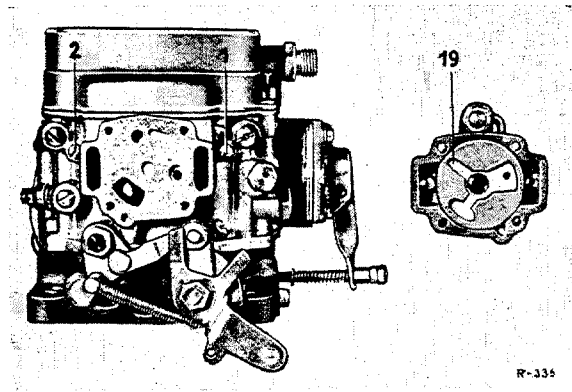

Fig. M 33 S/4
30. Fit the start mechanism with rotary slide valve into the lower part of the starter so that the fuel chamber (19) is at the top (Fig. M 33 S/4).